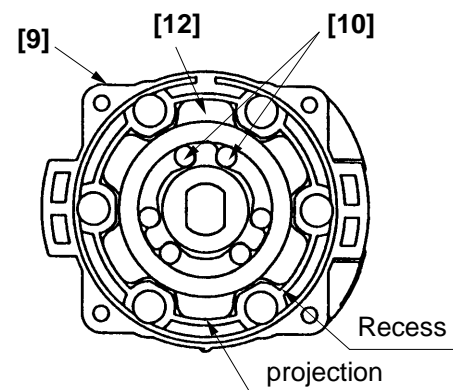

Fig. 11
- (b) Install the six Needle Rollers (C). (See Fig. 11)